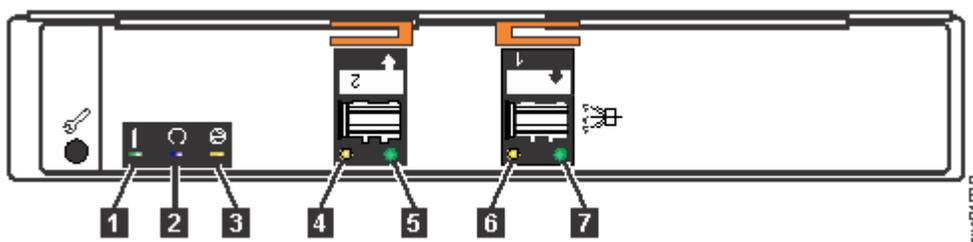

Figure 164. Expansion canister
An expansion canister provides SAS connectivity between the 5U expansion enclosure and control enclosure system. If either of the two expansion canisters has a failure, the other expansion canister assumes the full I/O load. Figure 164 on page 220 shows the features of an expansion enclosure.
3. Release the lower cable management arm to swing it out of the way, as described in Figure 164 on page 220.